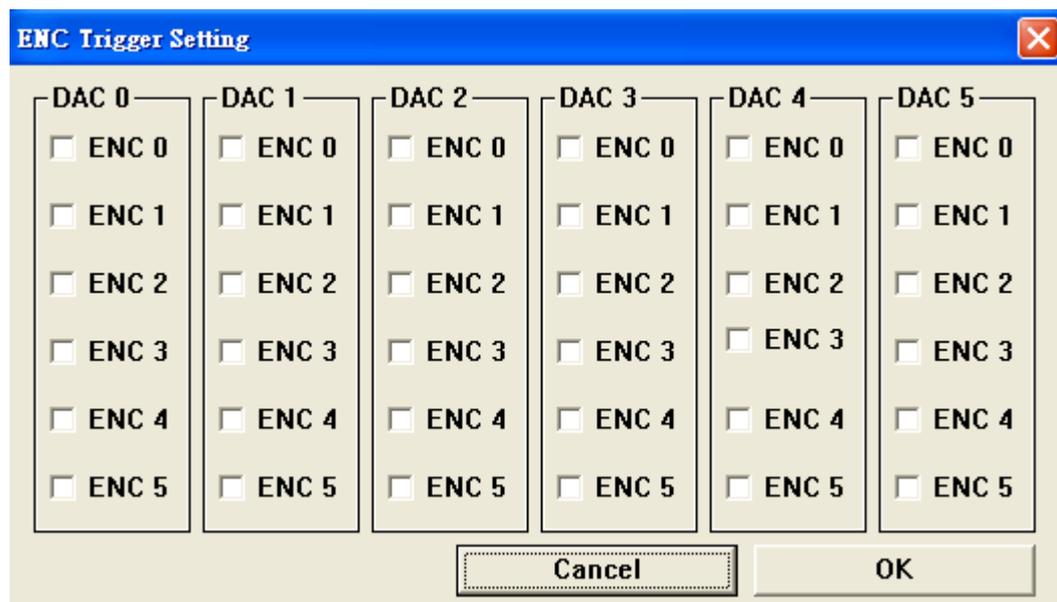

Figure 4-9.4
(3) Set encoder as DAC trigger source (as shown in Figure 4-9.4)